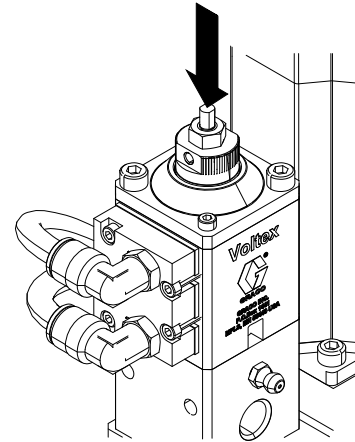

FIG. 44
1. Install O-ring (103) and valve seat (104).
2. Manually press down on top of dispense valve until fully depressed. See FIG. 44.